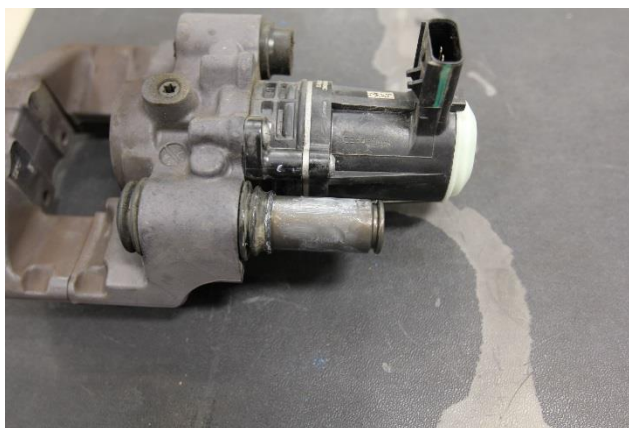

Figure 25
35. Apply Klueber GLK 1PF lubricant to the exposed surface of the lower sliding pin (Figure 25).